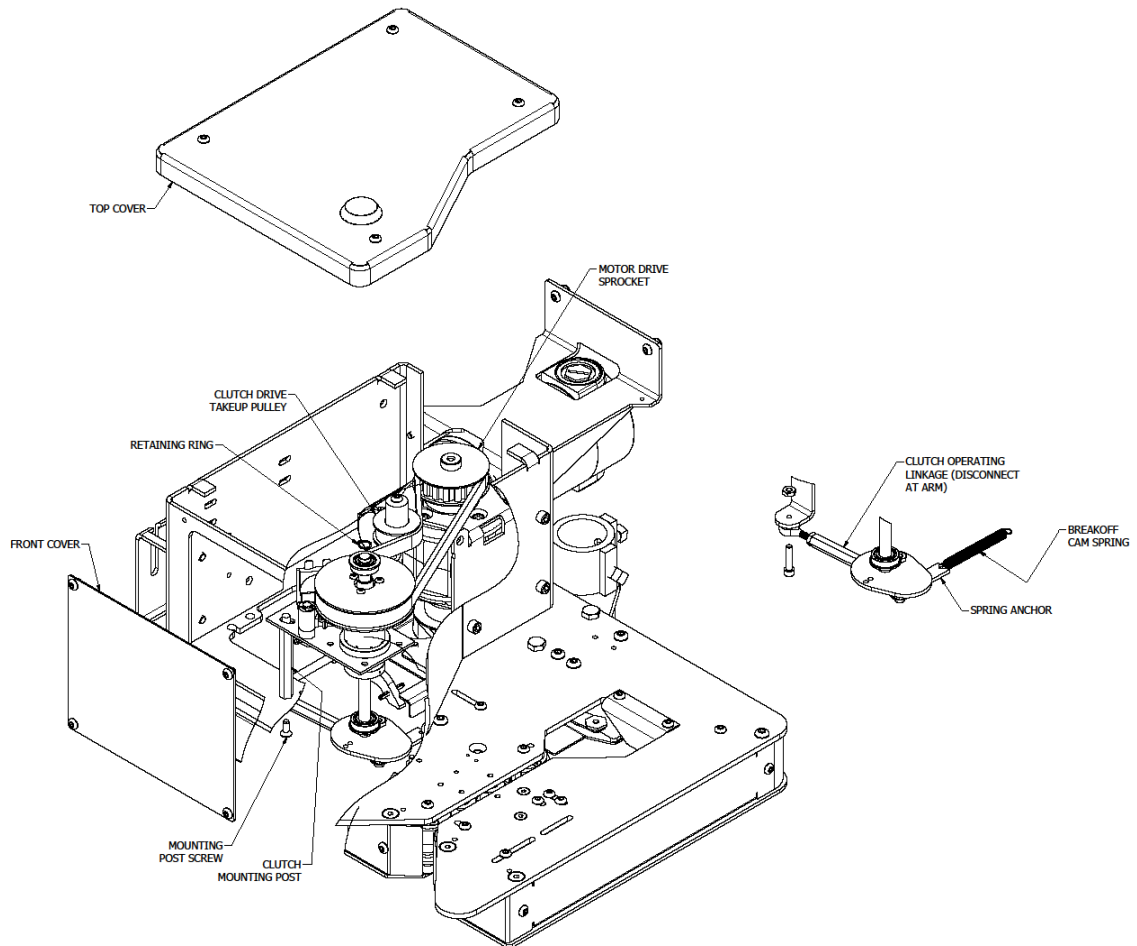

Figure 4.3
Reference Figure 4.3
*NOTE: Confirm camshaft is positioned in the start position. Reference Figure 4.3 for orientation.*